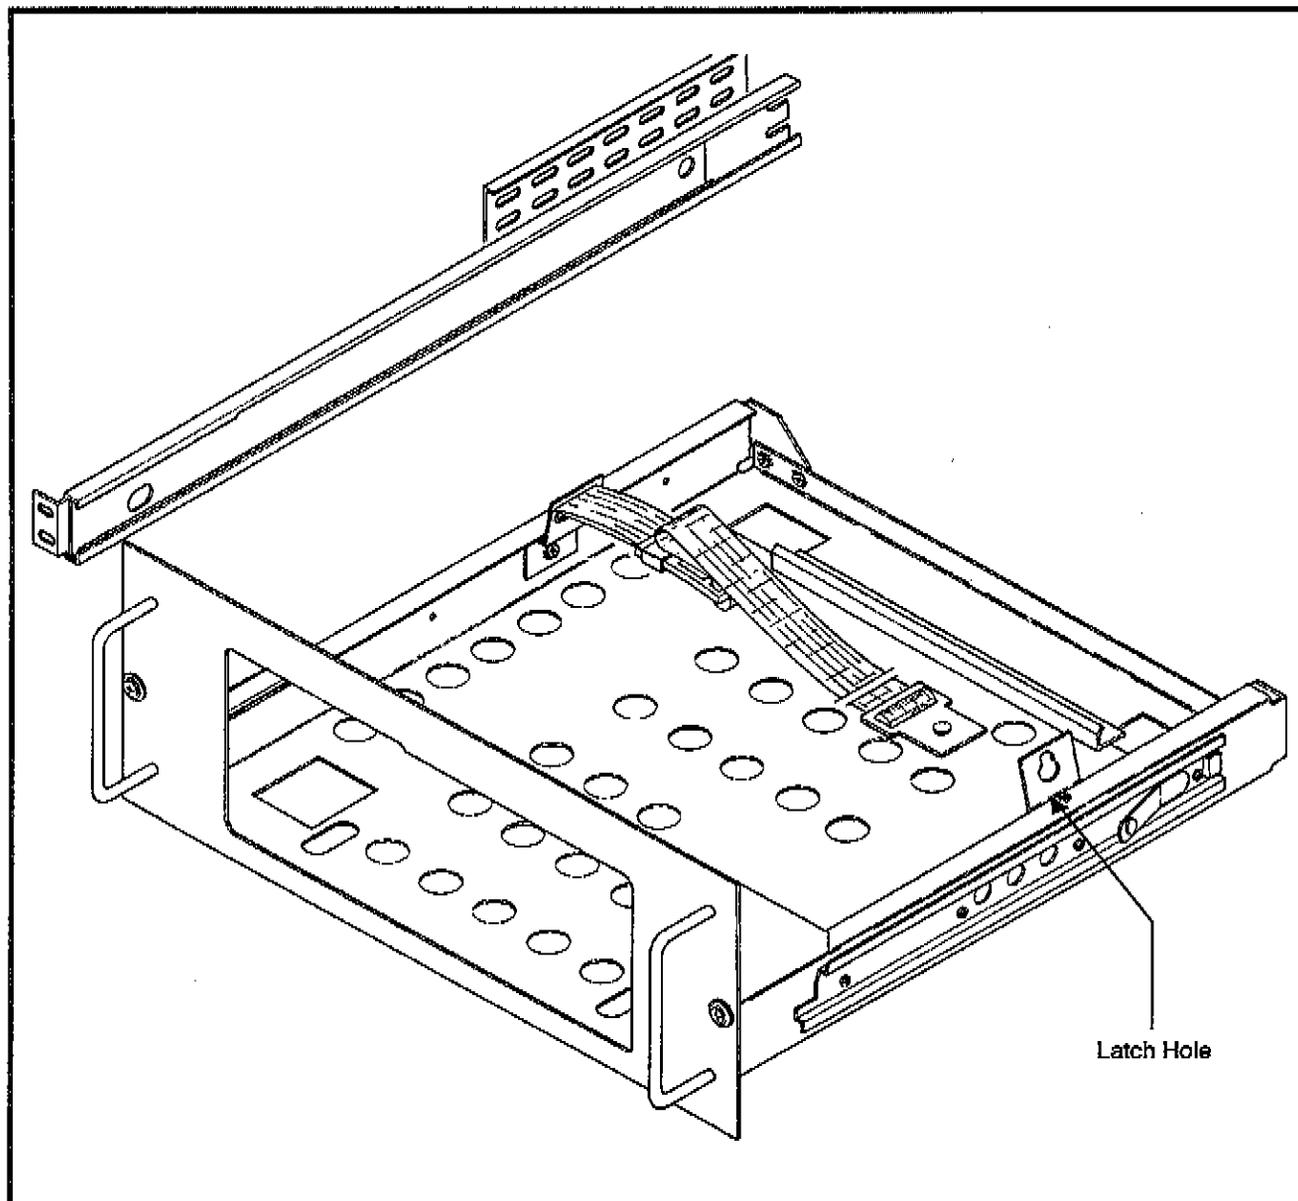

Figure 6-11. Latch hole for tie-down.
7. Drape the tie-down over the Spectrum Analyzer and latch it in the hole shown in Figure 6-11.